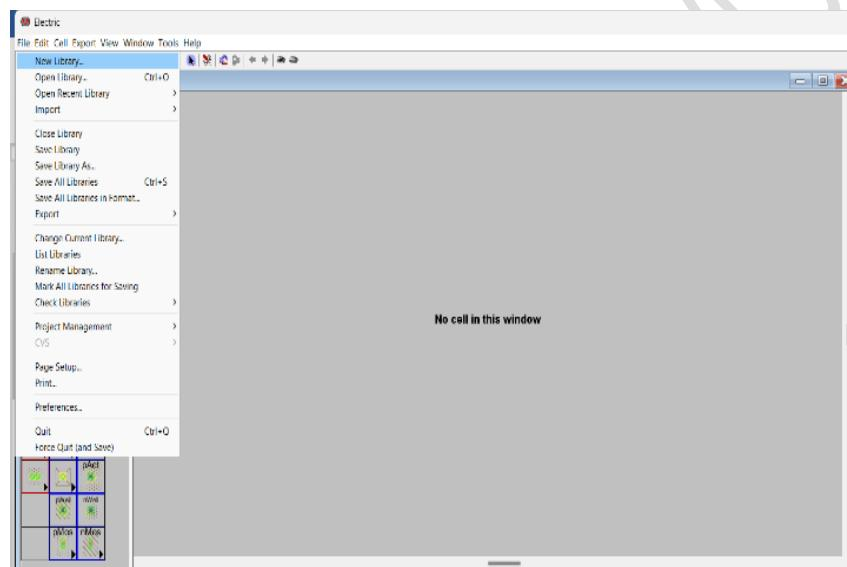

Figure 1.4: Creating a new library.
2. Create a new library by clicking on File > New Library (see Figure 1.4).